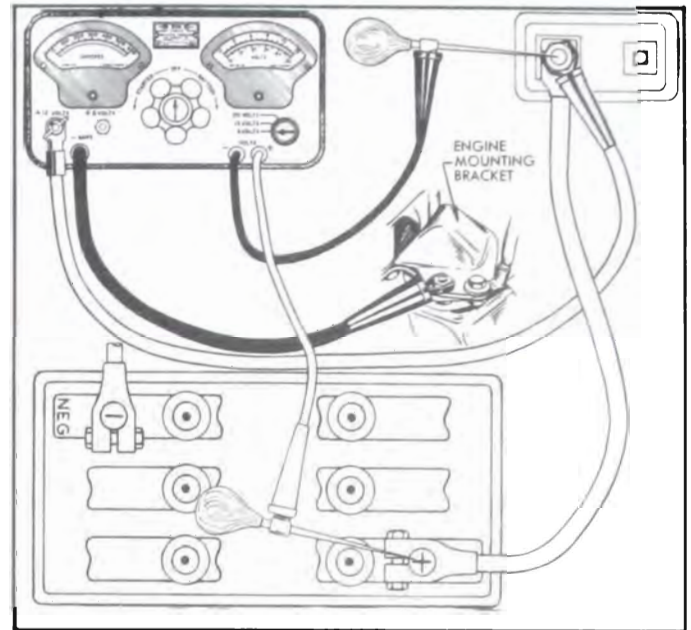

Figure 10-5—Battery Cable Test Connections
rheostat and connect other side of rheostat to ground on engine, preferably at point where battery ground strap is attached. In the instrument shown in Figure 10-5 the ammeter and rheostat are connected in series inside the case.
3. Connect voltmeter negative (-) lead to battery terminal stud on junction block. Use a prod with voltmeter lead, if necessary, to insure direct contact with the terminal stud. Do not connect to the ammeter lead clip. Attach a prod to voltmeter positive (+) lead and apply the prod to center of battery positive (+) post (Fig. 10-5). Make sure that clips of voltmeter leads have clean metal contact with prods.